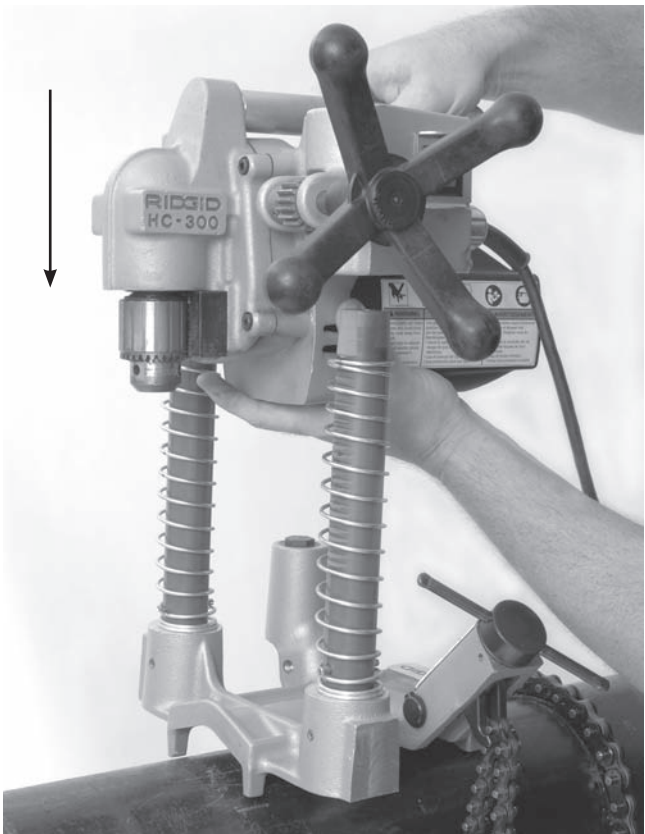

Figure 9 – Attaching the HC-300 Motor Assembly to the Base Assembly
5. Carefully lift the motor assembly and align the post openings in the motor assembly with the posts of the base assembly. Press the motor assembly on until the plunger engages the post to retain the motor assembly to the base. Confirm that the motor assembly is securely attached to the base. (See Figure 9.)